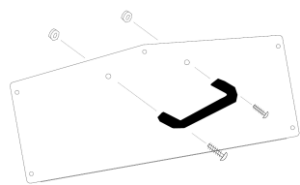

Fig.7
- Assemble the plastic handle into the superior rear panel with the 2 screws and nuts pre-assembled in the handle (Fig 7).
Once all of the above steps are successfully completed, replace the superior rear panel (with the handle already assembled -Fig.7) and secure them with the 5 screws.